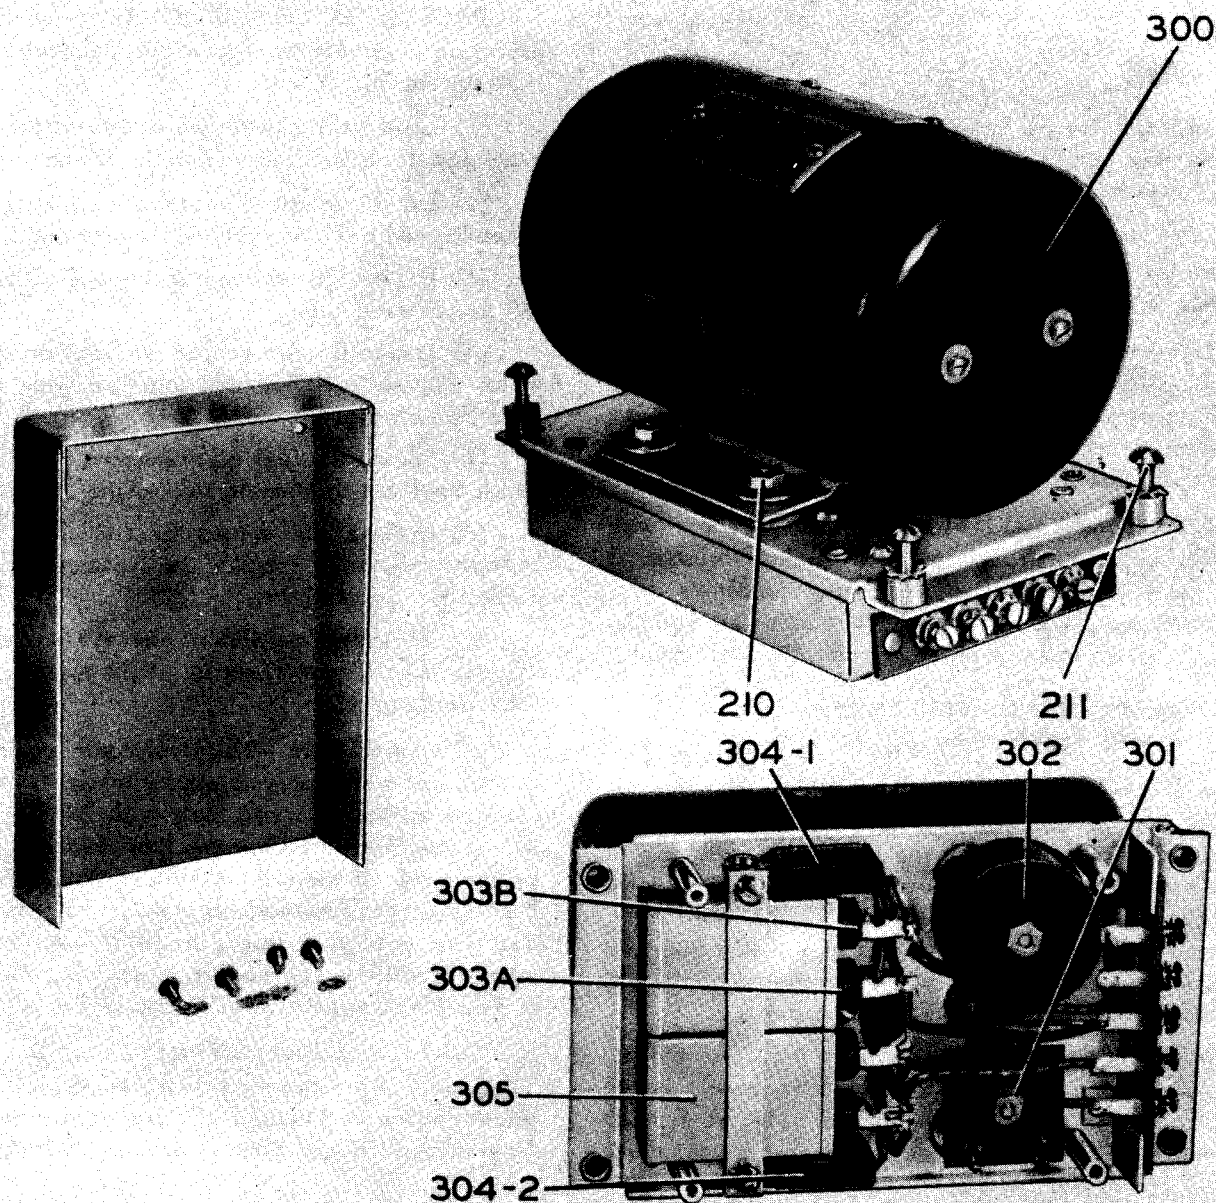

Figure 13 — Dynamotor DM-28-(\*) or DM-24-(\*), View Showing Filter Open
(1) Loosen the two thumb screws on the receiver panel and draw the chassis from the cabinet.
(2) Lay the chassis with top upwards on a smooth, flat surface with the rear toward the operator.
(3) Depress the retaining spring and withdraw the left thumb screw rod.
(4) Loosen the five connector screws on the dynamotor terminal strip and withdraw the spade terminals from beneath them.
(5) Loosen the four captive screws 211, figure 13, which hold the dynamotor unit to the chassis.
(6) Remove the dynamotor and filter assembly from the receiver by grasping the dynamotor and lifting vertically.
(7) The filter portion of the dynamotor unit is made accessible by the removal of the cover at the bottom. See figure 13.